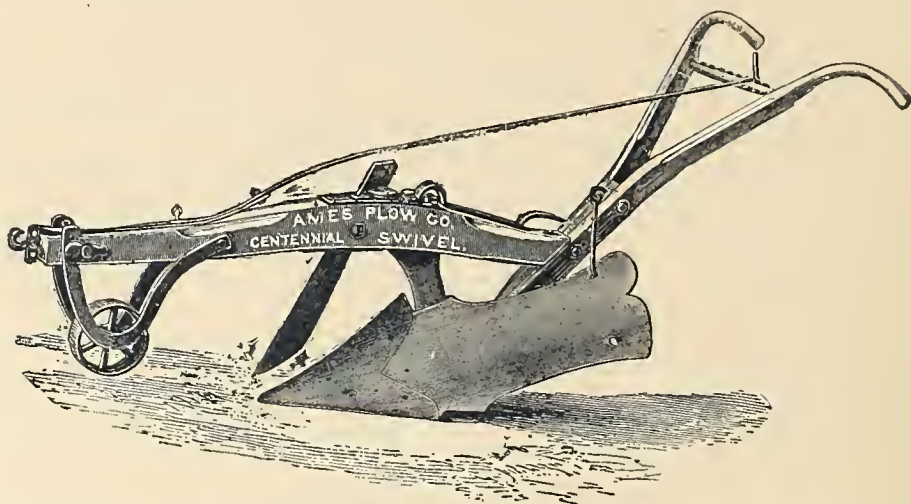

Fig. B 242.—Centennial Swivel Plow with Shifting Clevis.
**The Shifting Clevis,** with steel lever, as shown in *Fig. B 242*, is now furnished on the Centennial plows when so ordered. By its use a number of advantages are attained, and it is considered by many a great improvement in connection with swivel plows. The Shifting Clevis puts the direction of the plow at the command of the plowman, for by simply adjusting the lever in the notches provided between the handles a uniform width and depth can be maintained. For steep hill work especial merit is claimed for the Shifting Clevis, as the plow may be so regulated that it will not have a tendency to work down hill.